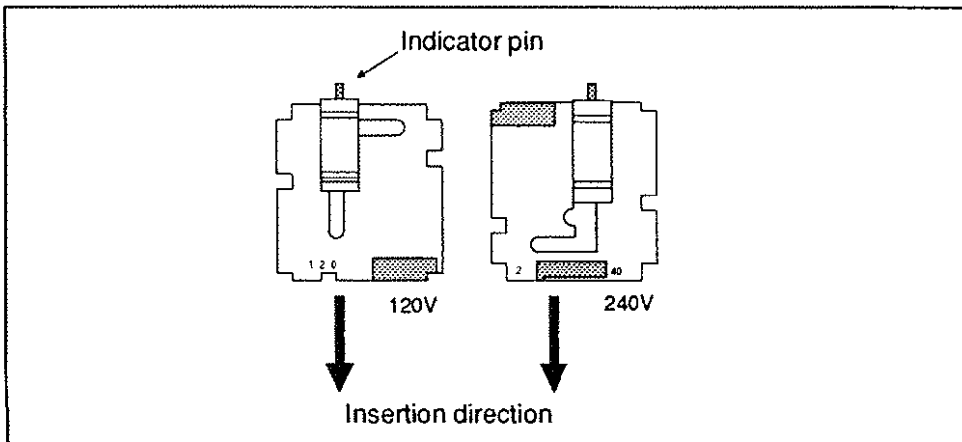

Figure 2-2. Voltage Selector Card
8. Remove the voltage selector card from the power module and rotate the voltage indicator pin 180 degrees. Figure 2-2 illustrates changing the card from 120v to 240v.